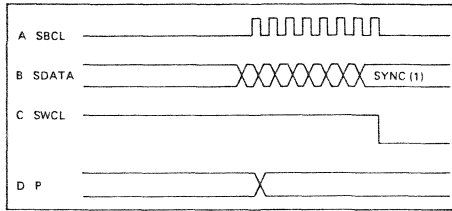

Fig. 4.5
17	TTL- signal Fig. 4.5 D
18	TTL- signal Fig. 4.5 B
19	TTL- signal Fig. 4.5 A
20	TTL- signal Fig. 4.5 C
- The support plate can now be shifted according to Fig. 4.5. Retighten the screw [A] when the position is correct.